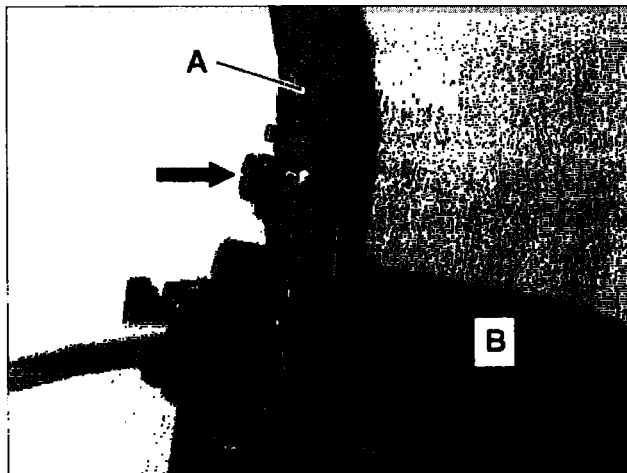

Figure 6
5. Remove cable tie (arrow, Figure 6) securing SBC wire harness (A) to SBC connector housing (B)